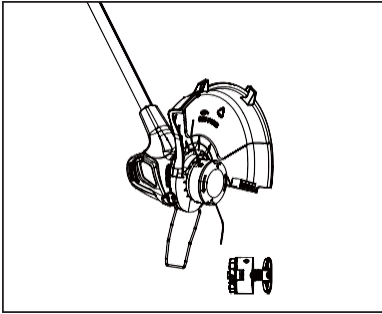

Fig. 4
- a). Press two buttons on either side of the grass trimmer's string casing (the buttons have a "»»" symbol on them) to remove the lid of the casing. (See Fig. 4 & 5).